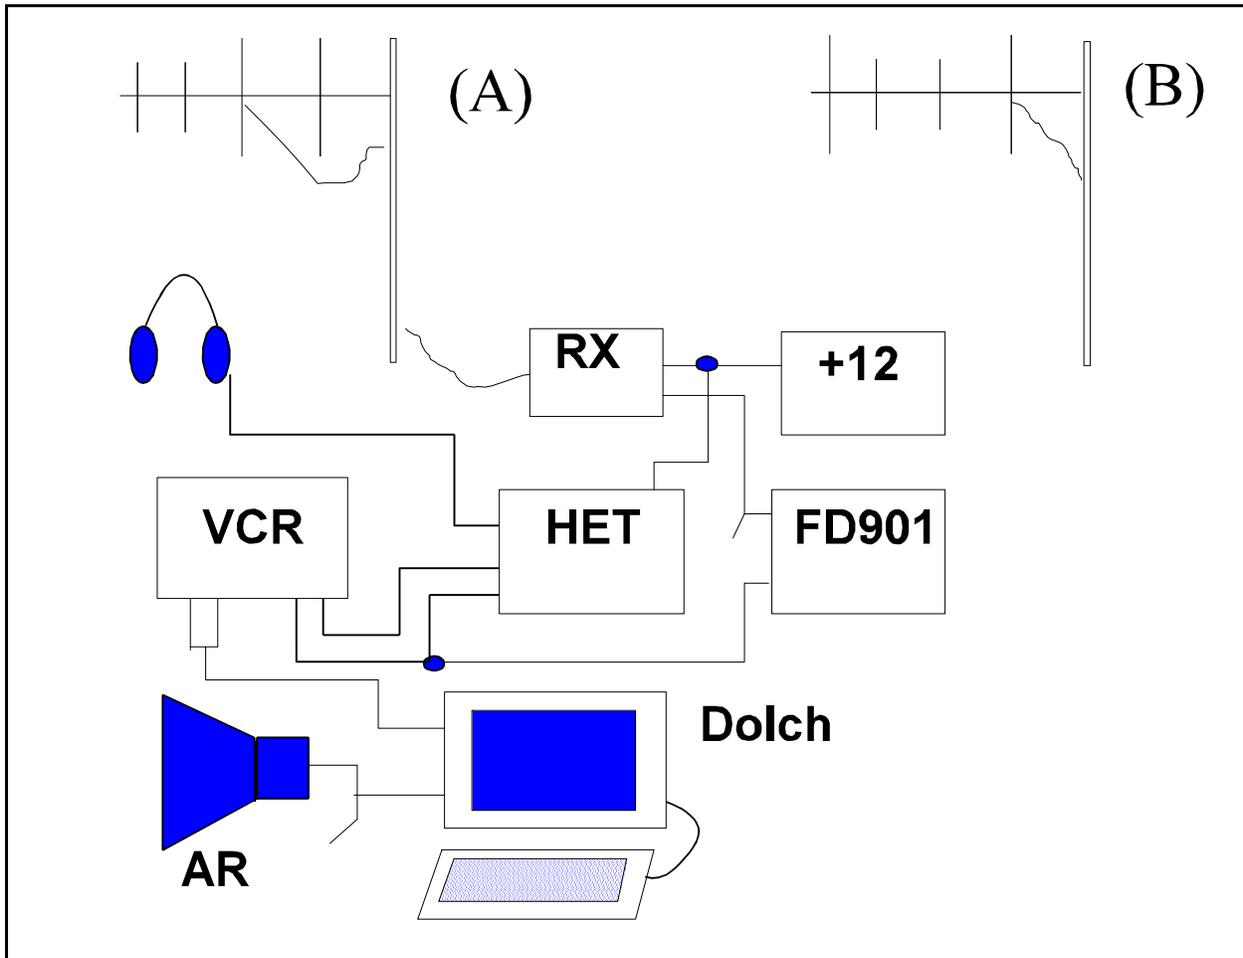

Figure 3. Receive station wiring
See the 'Receiver Supplement', page 4 and figure 3 for more information.
- a) Setup receiver and recording equipment per figure 3.